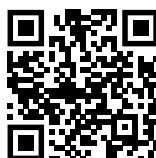

Fig. 148
- Open Liebherr SmartMonitoring Dashboard. (see Fig. 148)